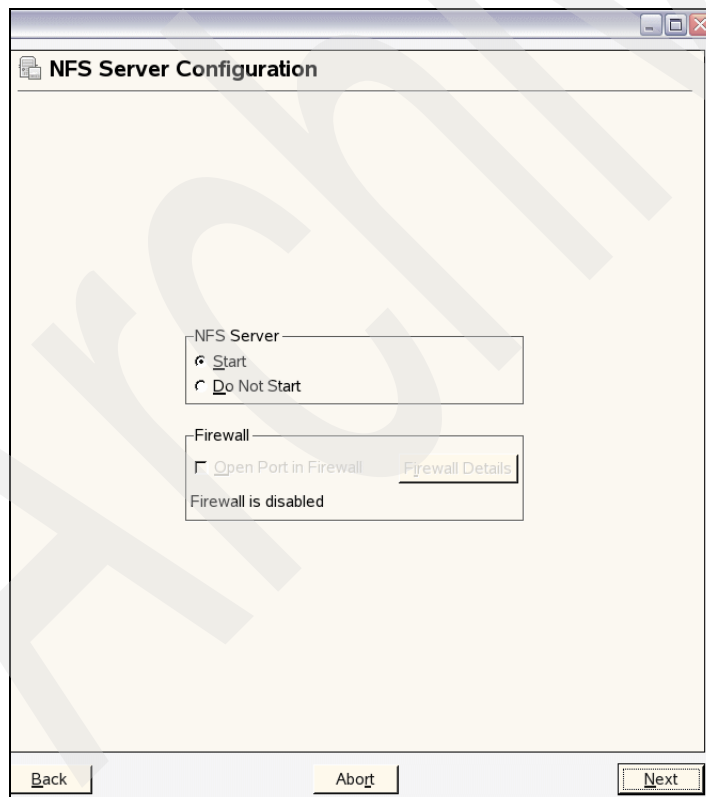

Figure 6-8 NFS Server Configuration
1. Enter **yast2 nfs-server**. This opens the NFS Server Configuration window, as shown in Figure 6-8.